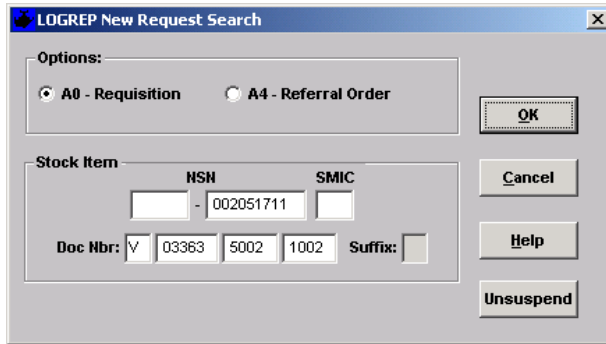

Figure 6.2
- 6.1.1 The **LOGREP New Request Search** window (Figure 6.2) allows the user to process interactive requisitions (A0\_) and referrals (A4\_), as well as unsuspend those transactions that did not pass batch request validation.